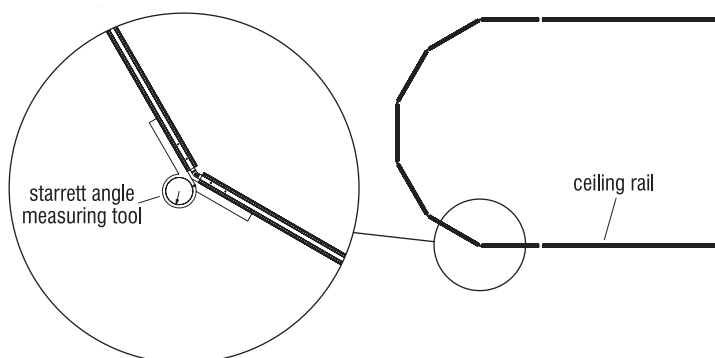

Figure 9 - Starrett Angle Measuring Tool
28. Using a Starrett angle measuring tool, measure the angle between each pane of glass. This device will produce the angle at which to set the power miter box and aid the installation of trim (Figure 9).